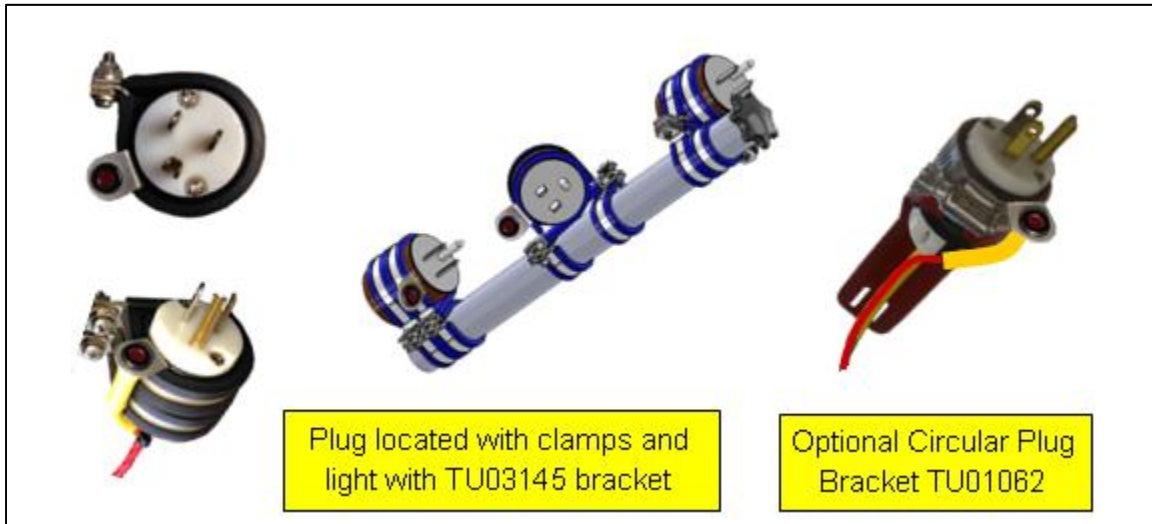

Figure 3 – Example of locating options for circular shore plug. Clamps referenced in Table 2.
2. Indicator light (Figures 3 and 11):